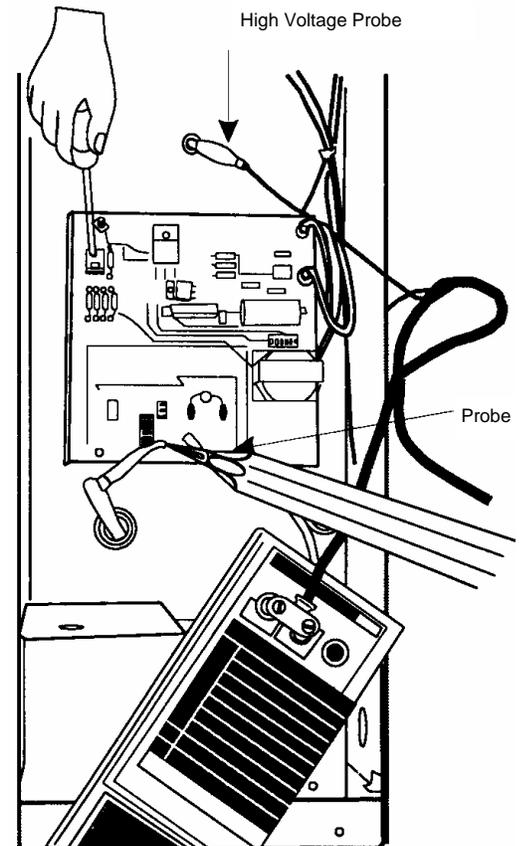

Fig. 8 — Testing Voltage At Power Board
5. Measure the voltages at HV1 and HV2 (where applicable) on the power board. See Fig. 8